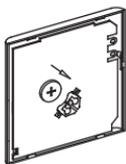

Fig 3-8
- Place the battery in the unit and ensure the positive side of the battery is in accordance with the polarity markings. (See Fig.3-8)